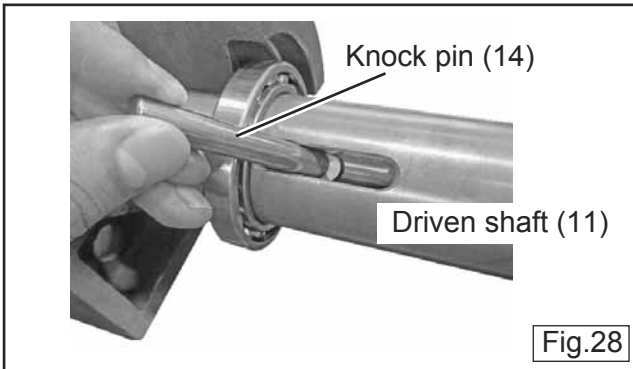

Fig.28
- ② Insert the piston rod (13) from the piston side (inside: tapered) of driven shaft, then insert knock pin (14) into the hole of piston rod through the groove of driven shaft. (Fig. 28)